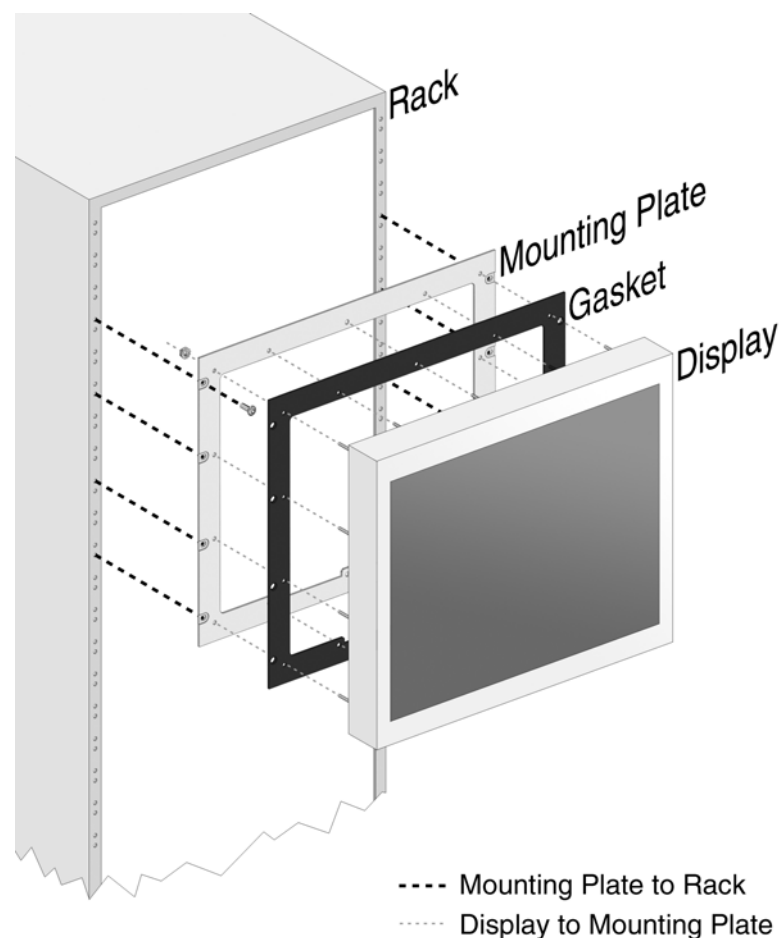

Figure 3: Landscape Installation Illustration
1. Align mounting plate rack-mount holes with server rack mounting holes; see Figure 3 for correct mounting orientation. **Ensure gasket faces outward.**